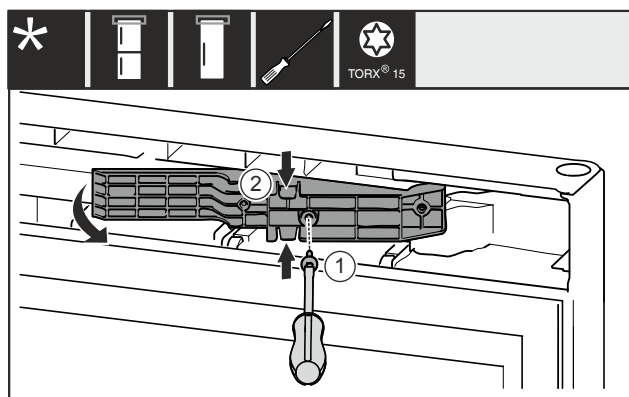

Fig. 14 *
- ▶ Remove the screw Fig. 14 (1)*
- ▶ Gently press the adapter piece Fig. 14 (2) together at the top and bottom and pull it out.*